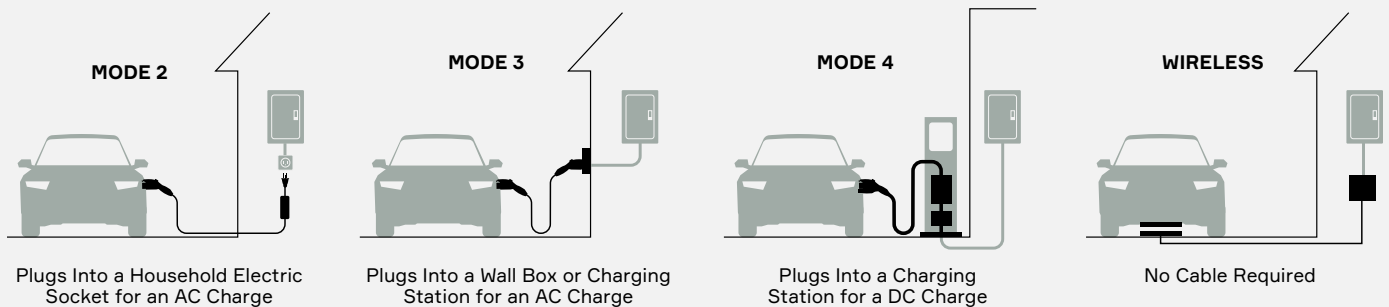

Figure 2: The mode describes how the EVSE connects to the grid.
**Mode:** The mode (see Figure 2) reflects how the EVSE connects to the electrical grid.